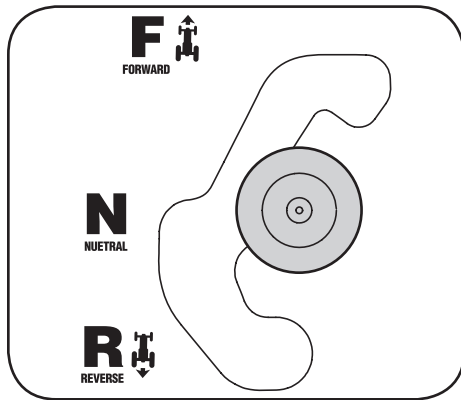

Figure 3-2
The shift lever is located on the left side of the fender and has three positions; FORWARD (F), NEUTRAL (N) and REVERSE (R). The brake pedal must be depressed and the lawn tractor must not be in motion when moving the shift lever. See Figure 3-2.